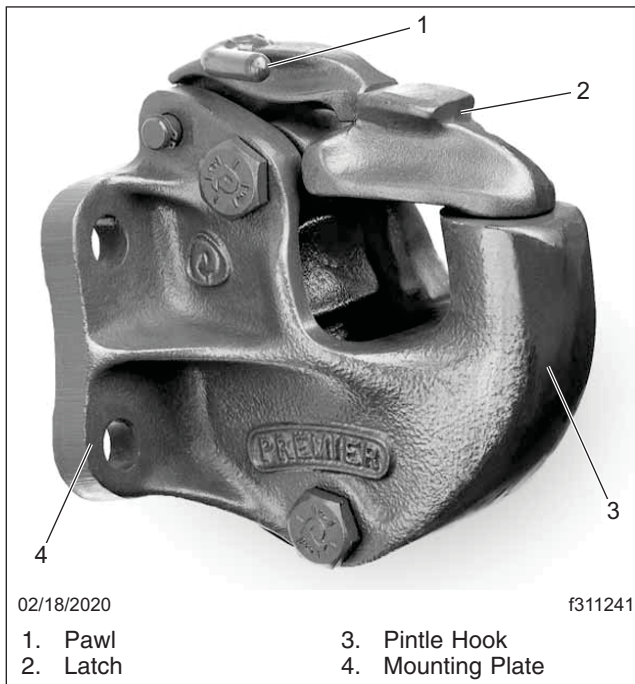

Fig. 19.2, Premier #270 Air Pintle Hitch
2. Pull the pawl out toward the left as far as it will go and then rotate it upward. Holding the pawl in place, rotate the latch upward near the underside of the pawl, then release the pawl. The underside ledge of the pawl will catch the flat front surface of the latch, interlocking the two into the open position. See Fig. 19.2.